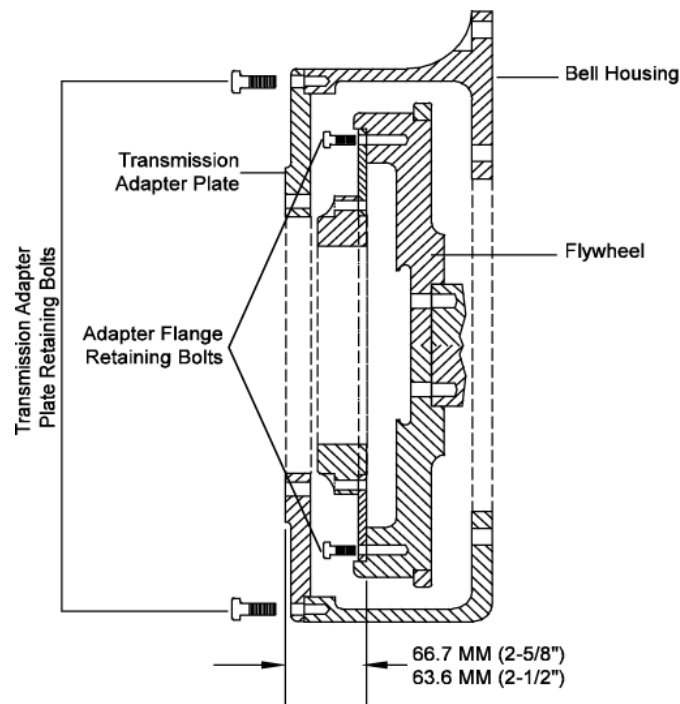

Fig. 1: Transmission Adapter Plate Measurement
Transmission Adapter Plate Measurement *(See Fig. 1)*
- Measure from the flywheel face to the exterior face of the transmission adapter plate (Faces identified with arrows – see fig.1).